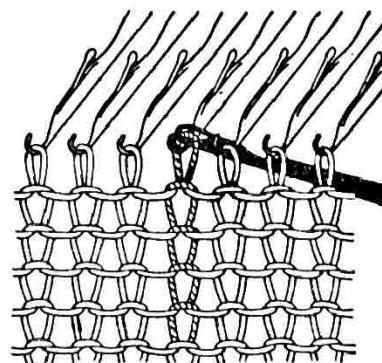

Fig. 37
5. Place the stitch on its respective needle (Fig. 37).